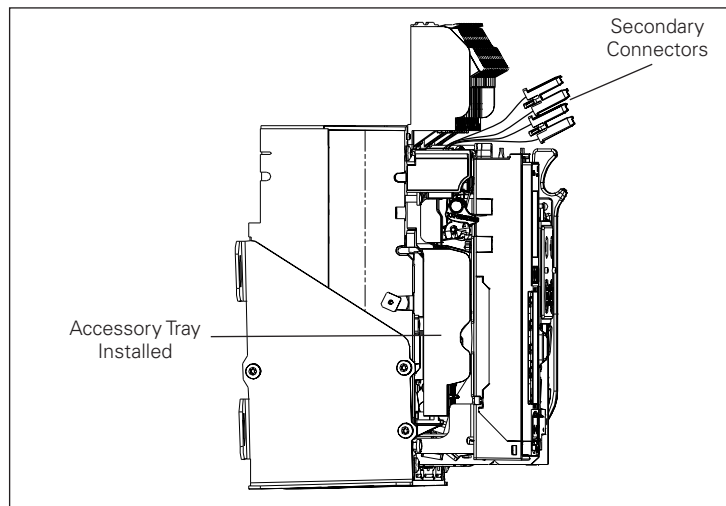

Figure 30. Step 5 (NF Frame Shown).
Step 5: The installed left accessory tray should look as shown in Figure 30 with secondary leads extending out behind the trip unit mounting plate location. Secondary connections can now be made.